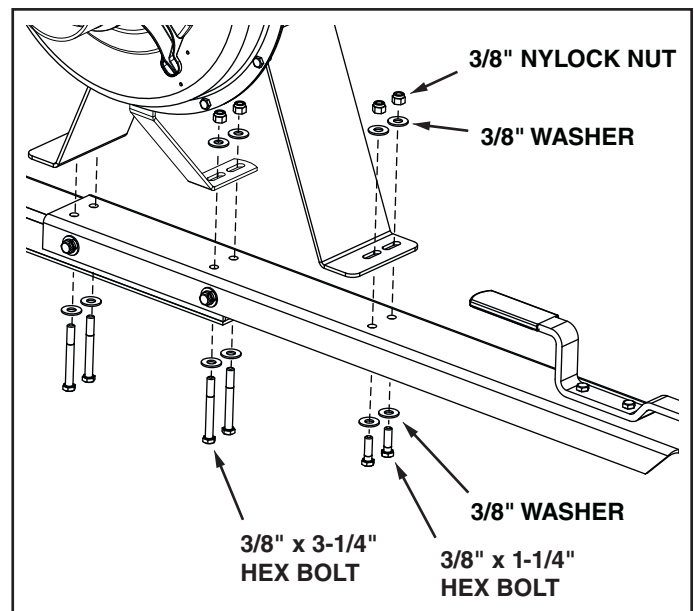

FIGURE 7
- Attach the engine base assembly to the tongue using four 3/8" x 3-1/4" hex bolts, two 3/8" x 1-1/4" hex bolts, twelve 3/8" washers and six 3/8" nylock nuts. **Tighten.** See figure 7.